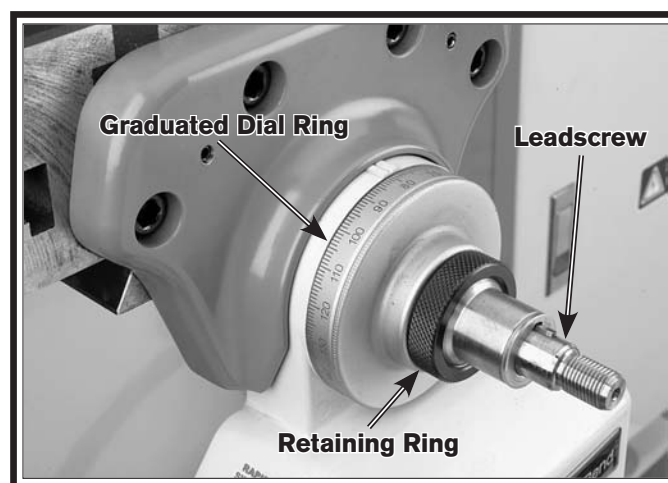

Figure 53. Power feed ball handle removed.
2. Remove the hex nut and ball handle from the power unit end of the longitudinal leadscrew (see **Figure 53**).